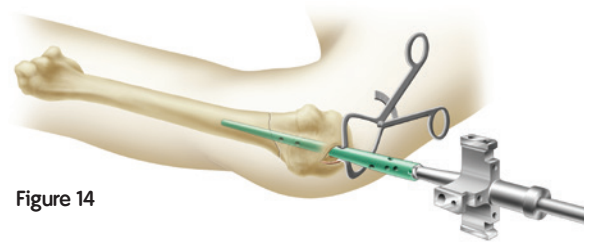
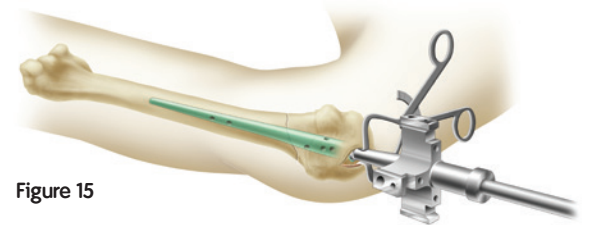

Figure 14
Figure 15
1. Insert the nail over the 2.0mm Graduated Ball Tip Guide Rod and through the Entry Cuff Guard (Figure 14) until the lateral ledge on the drill guide is above the lateral cortex and the nail is seated just below the articular surface (Figure 15). The lateral arm of the drill guide should be oriented with approximately 30-35° of adjustments to this version can be made so that the anterior arm of the drill guide is in line with the lesser tuberosity, avoiding alignment with the bicipital groove.